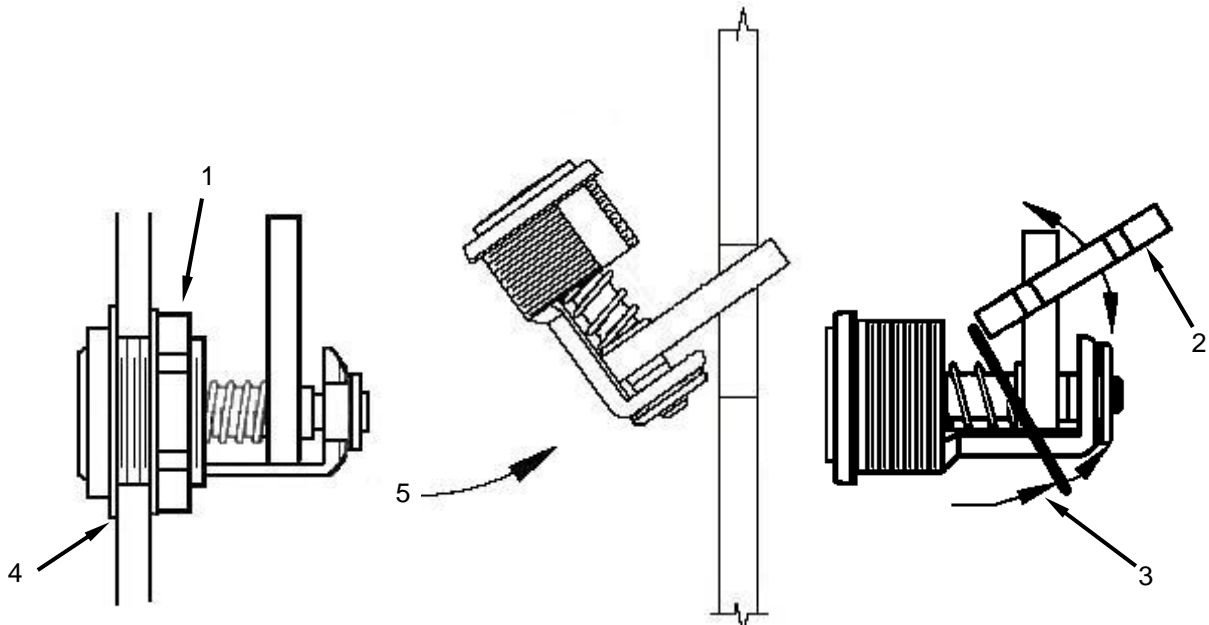

Figure 4. Locking Pawl.
2. Loosen the mounting nut (Figure 4, Item 1) with a suitable wrench.
3. Slide the mounting nut (Figure 4, Item 2) and the lock washer (Figure 4, Item 3) over the end of the pawl body and over the pawl.
4. Withdraw the pawl body and trim washer (Figure 4, Item 4) outwards and pivot to allow the pawl to clear the mounting hole in the controller body.
5. Install the new pawl body and trim washer by pivoting it through the hole in the mounting plate in the controller body (Figure 4, Item 5). Ensure the pawl is in the same position and orientation as noted during disassembly. Ensure the arm is fully extended.